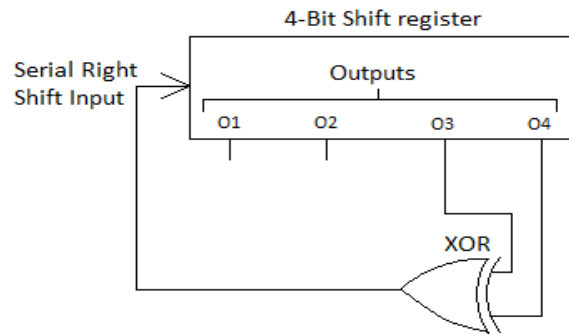

Figure 11.3: Linear Feedback Shift Register (LFSR)
- Figure 11.3 shows a circuit designed to work as a 4-bit Fibonacci linear-feedback shift register (LFSR). LFSR can generate a pseudo-random sequence of binary numbers.